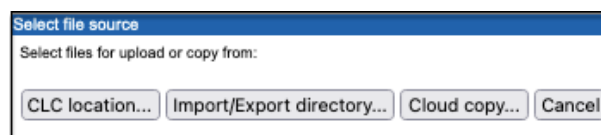

Figure 8.11: Choose the source of data to upload to AWS S3.
- **Using a graphical file chooser** Click on the **Add files...** button to select files and folders using a graphical file browser. The first step will be to specify the source of the data to upload (figure 8.11).